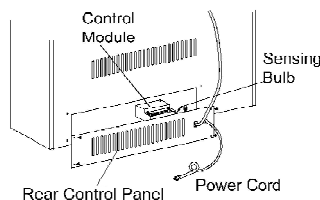
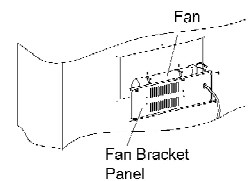
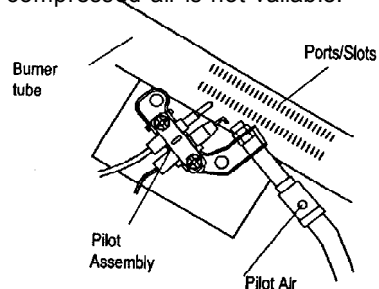

Figure 15- Control Model
Figure 16-Fan
Figure 18 -Pilot Air Inlet Hole
Figure 13 shows a correct burner flame pattern. Figure 18 shows an incorrect burner flame pattern. If burner flame is incorrect:
2. Remove two screws and hex nuts, take out the control module. When installing, reverse the steps above. (See Figure 15 and Figure 18)
2. Mark or tag each wire removed for its exact reconnection. Remove the four screws from the fan. When installing, reverse the steps above. (See Figure 16 and Figure 18)
inlet hole about two inches from where the pilot flame comes out of the pilot assembly (see Figure 18). With the unit off, lightly blow air through the air inlet hole. You may blow through a drinking straw if compressed air is not available.